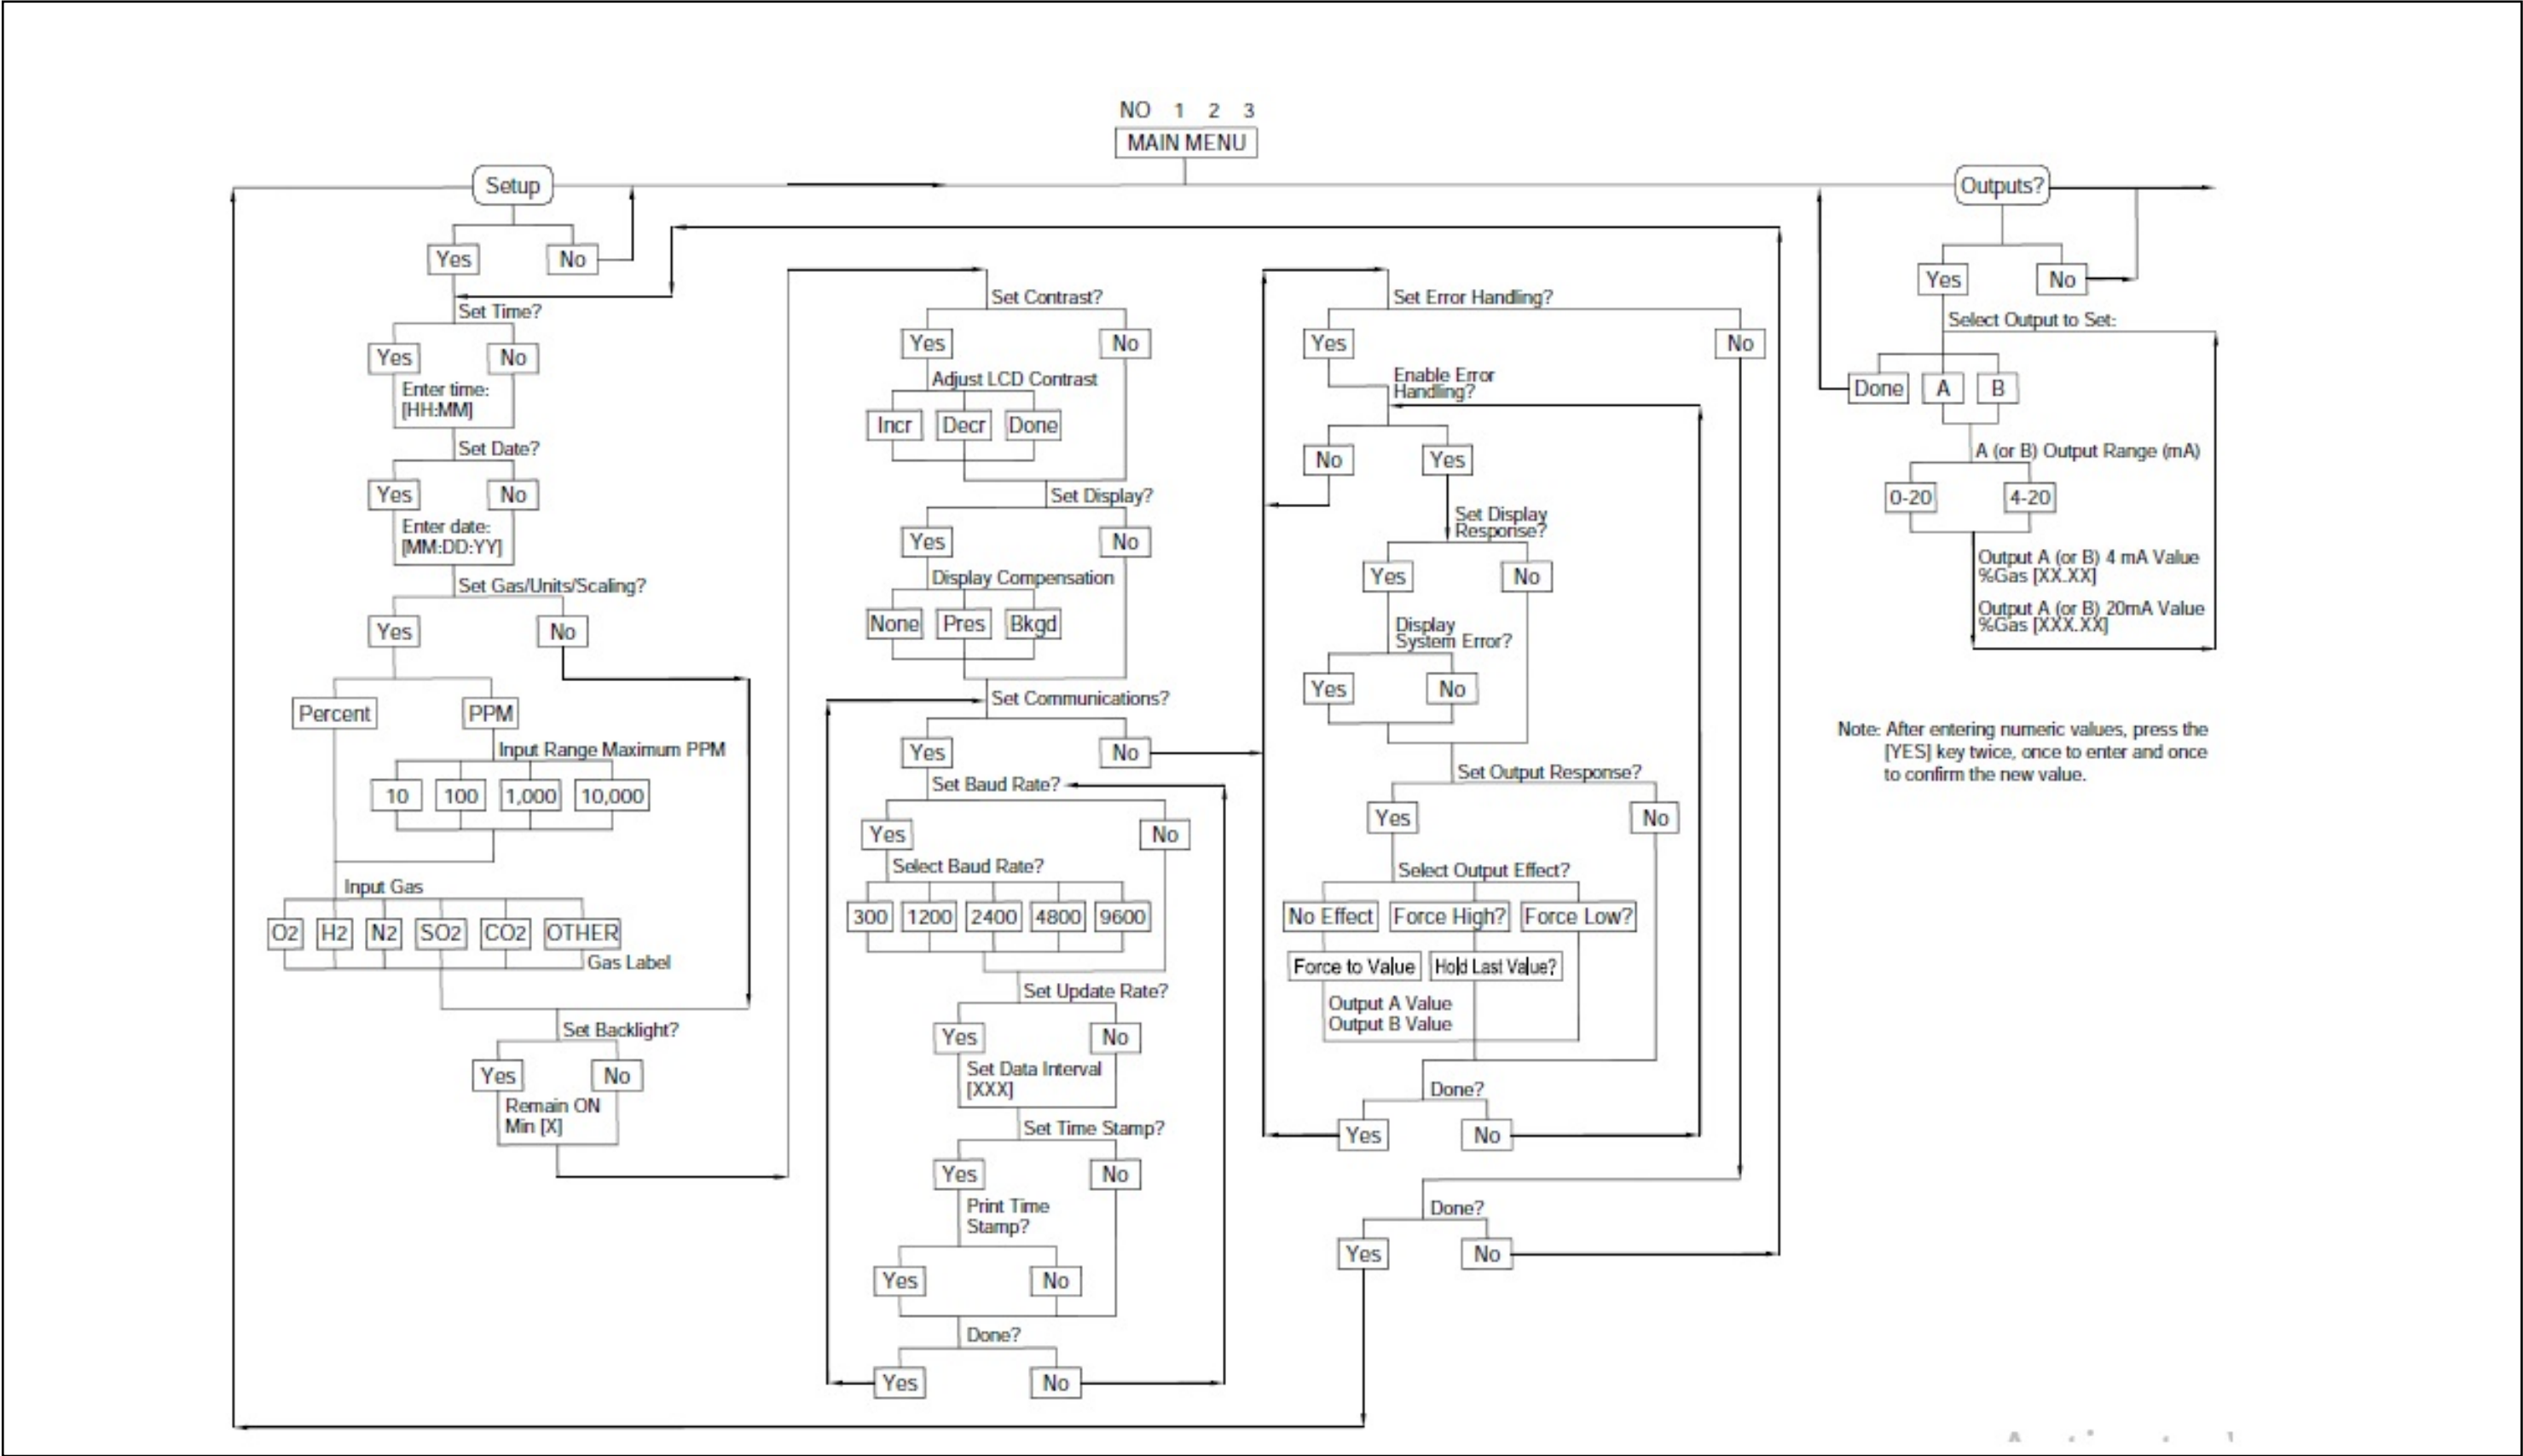

Figure 26: Main Menu: Setup and Outputs
- *Figure 26:* Main Menu: Setup and Outputs